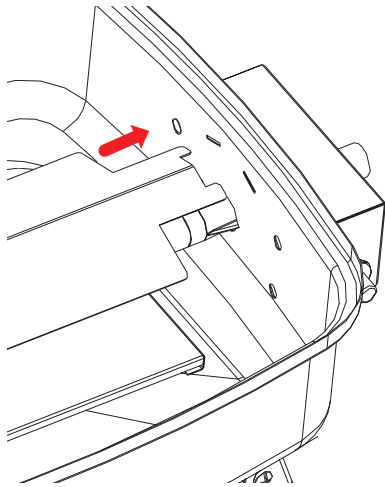

Fig. 6A
*Procedure:* Install the Heat Tent by inserting the tabs on the right side through the slots on the side of the firebox as shown in Fig. 6A.